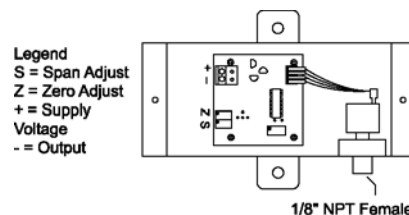

Figure 4. Differential Pressure Transducer With mA Output
7. Run conduit and wiring to the transducer. Connect wiring as shown in Figures 4 through 7, and set the switch to the correct position.
Use 12 AWG wire maximum for wiring terminals and copper or stainless steel tubing for the transducer connections. See Figures 4 through 7 for wiring diagrams and Figures 8 and 9 for jumper designations.
1. Remove the blue terminal block by carefully pulling it off the circuit board. See Figure 4.